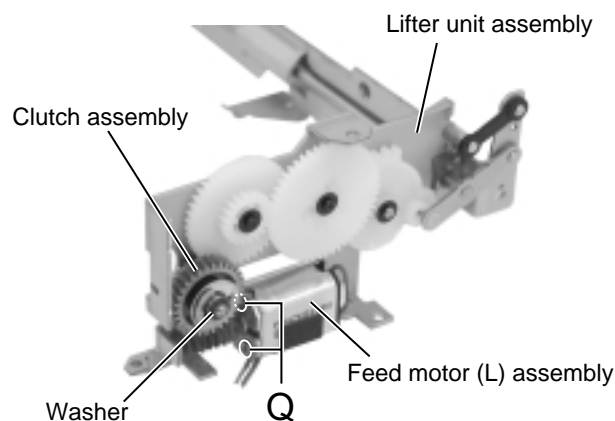

Fig.12
■ Removing the feed motor (L) (See Fig.12)
2. Remove the two screws Q attaching the feed motor (L).